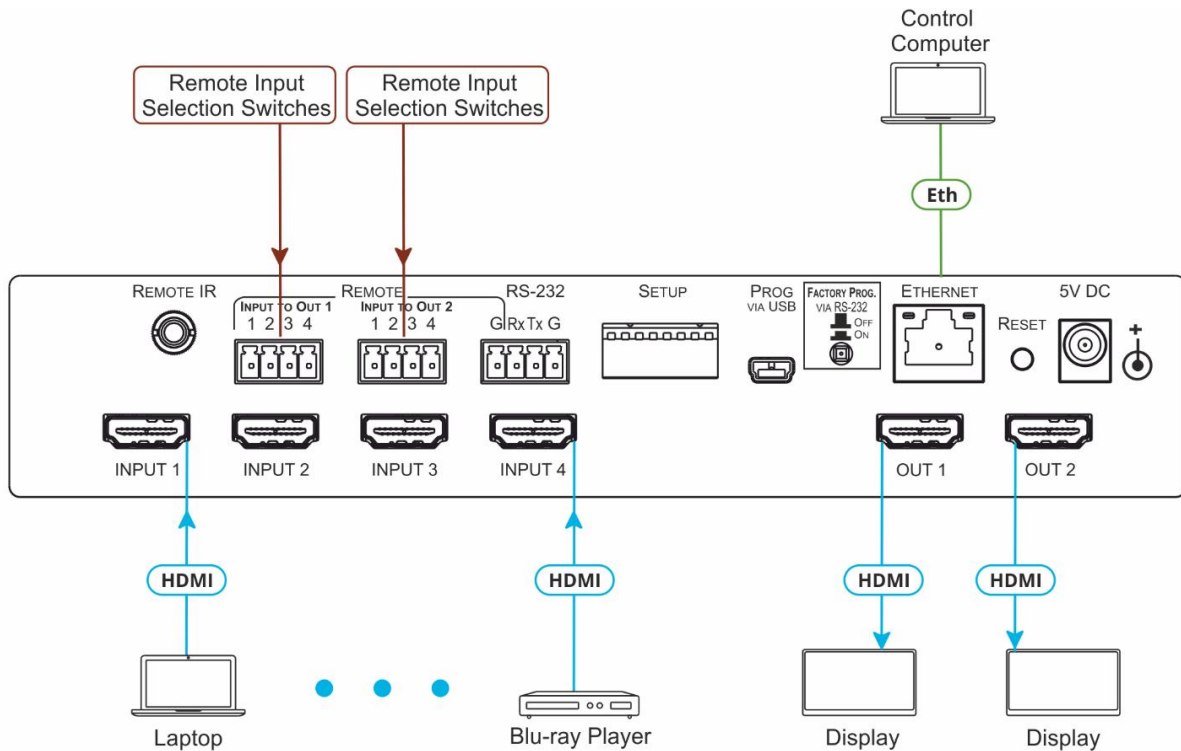

Figure 3: Connecting to the VS-42H2 Rear Panel
To connect the VS-42H2 as illustrated in the example in Figure 3:
1. Connect up to four HDMI sources, (for example, Blu-ray players) to the HDMI Input connectors ⑩.
3. If required, connect a PC/controller to the RS-232 port ⑭ (see Connecting to VS-42H2 via RS-232 on page 10).
4. Connect the power adapter to the device and plug the power adapter into the mains electricity (not shown in Figure 3).